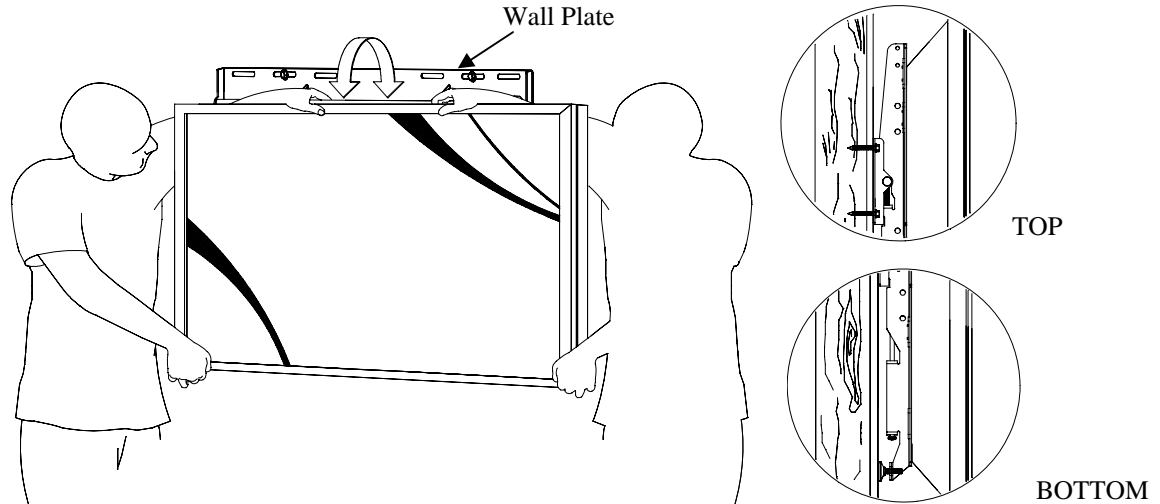

Figure 13. Securing The Flat Panel
**WARNING:** At least (2) qualified personnel are strongly recommended for installation of this product. Failure to do so could result in serious injury and possible damage to the flat panel.
1. Raise the flat panel with the mounting brackets secured to the flat panel and insert the top hooks from each bracket to the rod on the wall plate (Figure 13).